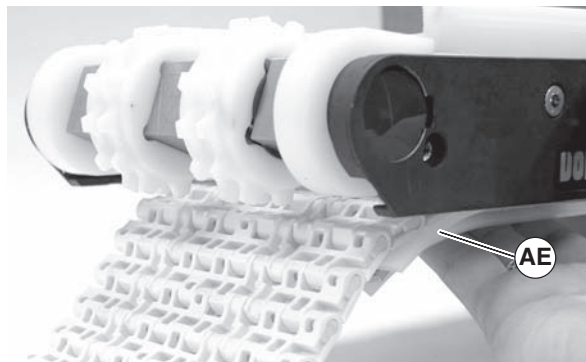

Figure 13
3. Feed belt into bottom wear strips (Figure 13, item AE) and pull through to the far end.